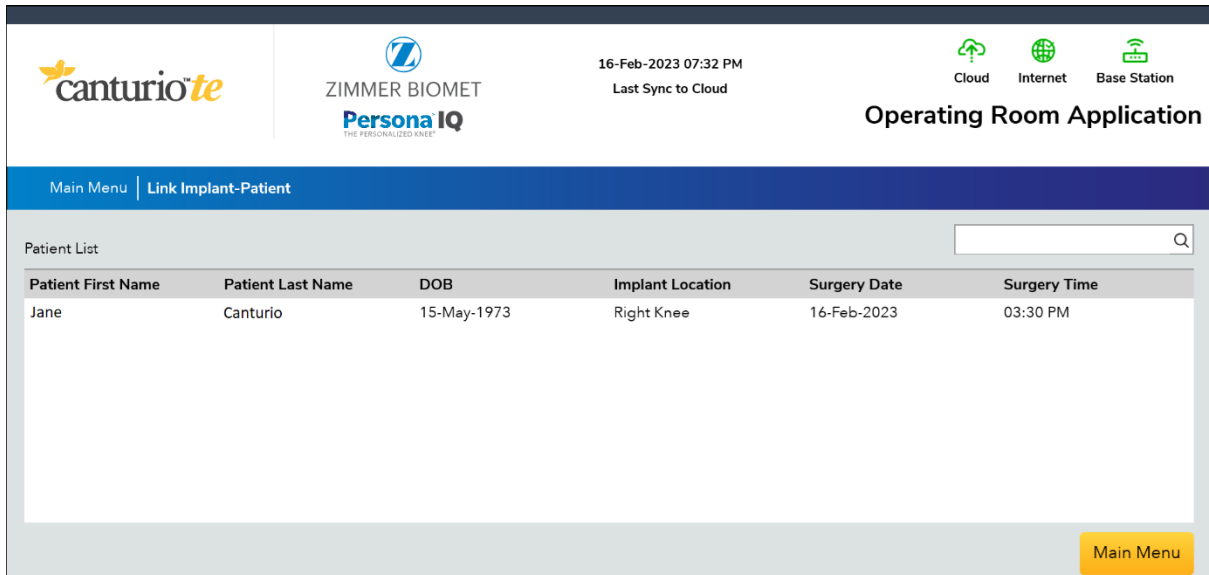

Figure 40: Choose Patient from List
9. Choose the patient's name from the Patient List (**Figure 40**).